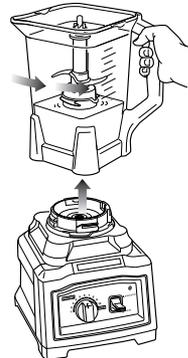

Fig. 8
- 11 To remove the lid, press the release button on the lid, pull the lid handle up to a 90° angle and lift the lid off. Holding the pitcher with one hand while removing the lid with the other will provide the best leverage. Turn the pitcher counter clockwise and then lift off the base. Do not pour out ingredients without first carefully removing the top blades. (Fig. 8)